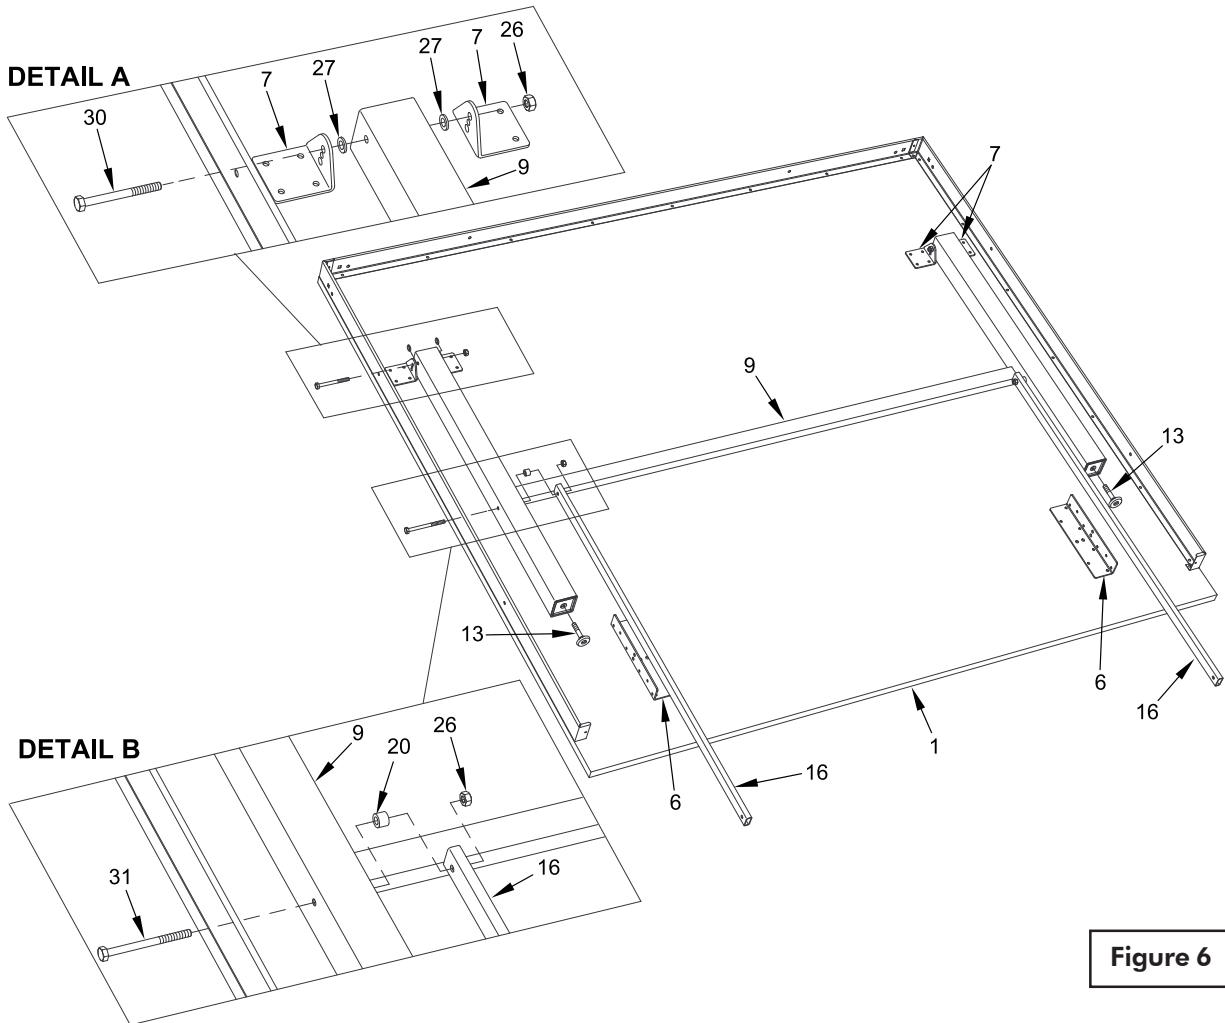

Figure 6
8. When doing this step, you may want to place a towel between table top and wall to keep from scratching wall. With the help of at least one other adult, take either table half #1 and lean it against a wall as shown in Figure 6. Turn top so that it is positioned as shown.
9. Attach Leg Assembly #9 to Brackets #7 on the bottom of table half #1. See Figure 6 and Detail A. Use two bolts #30, four washers #27 and two locknuts #26. **NOTE: Washers #27 go on both sides of leg between leg and bracket. NOTE: Cross Brace on Leg Assembly goes against table.**
10. Screw a Leg Leveler #13 into end of each leg on leg assembly #9. See Figure 6.
11. Attach Linkages #16 to **inside** of legs #9 using bolts #31, Spacers #20 and Locknuts #26. **NOTE: Spacer #20 goes between leg and linkage.** See Figure 6 and Detail B. Tighten locknuts snug, but do not overtighten. Joint must be able to move.